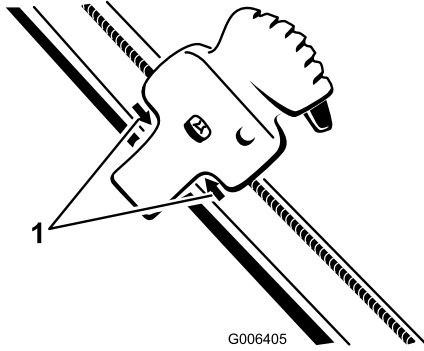

**Figure 41**
- Loosen the two Quick Shoot control cable clamps (Figure 41).